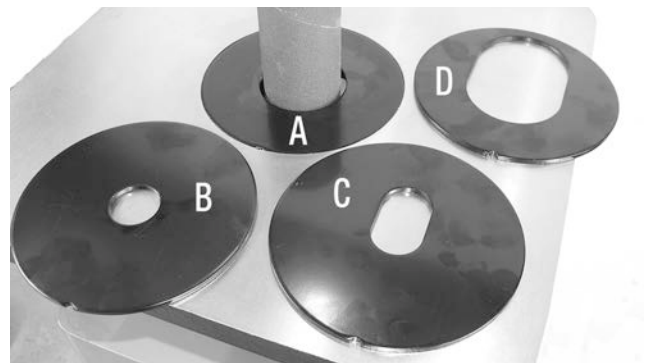

FIGURE 9
2. There are 2 table inserts with round openings (A & B) Fig.9 and 2 with oblong openings (C & D). The oblong table inserts are used when the table is tilted for bevel sanding.
1/4"	ROUND & OBLONG -SMALL (B & C) Fig.9
1/2"	ROUND & OBLONG -SMALL (B & C) Fig.9
5/8"	ROUND & OBLONG -SMALL (B & C) Fig.9
1-1/2"	ROUND & OBLONG -LARGE (A & D) Fig.9
2"	ROUND & OBLONG -LARGE (A & D) Fig.9